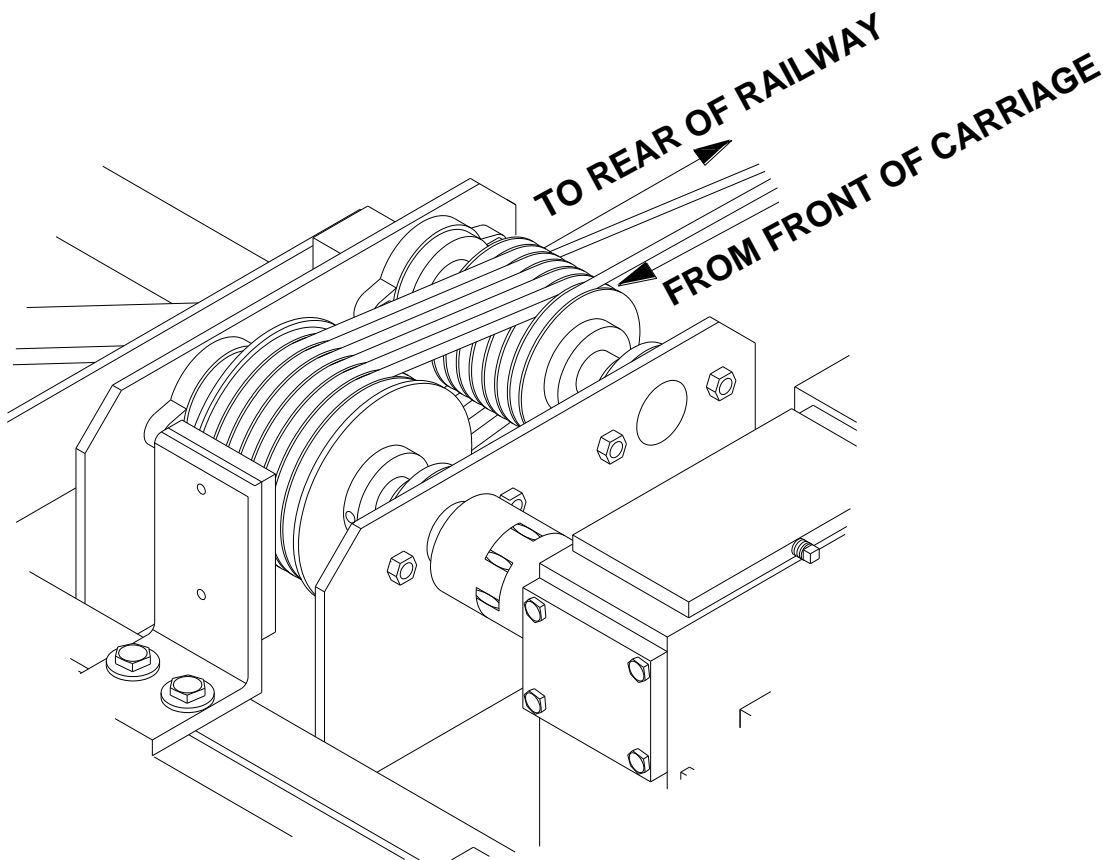

Figure 3-10.
4. **Refer To Figure 3-10.** Run wire rope over top idler sheave (7-groove sheave), starting with groove closest to motor side and loop it over drive sheave (8-groove sheave) starting with second groove away from motor side. Continue looping around both of them, ending up with the cable coming off the bottom of idler sheave towards the water end of the railway.